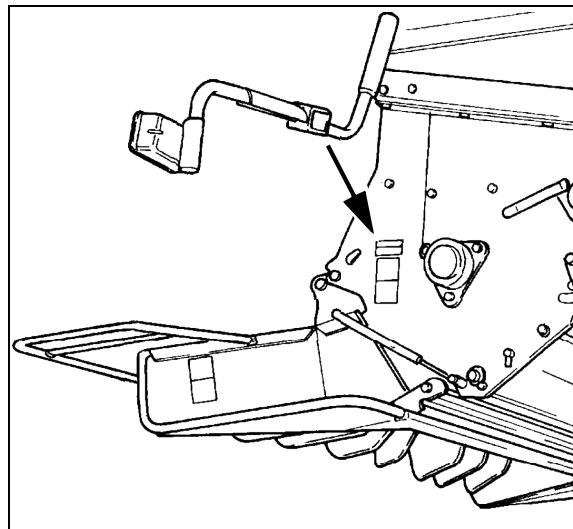

Fig. 5
**Straw chopper identification (if fitted) - Fig. 5**